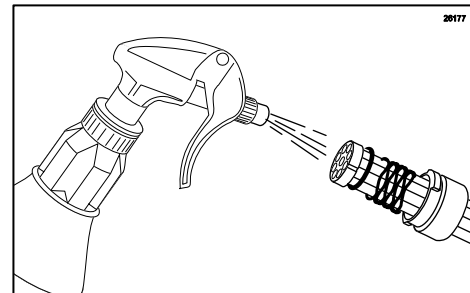

Figure 74
27. Remove the end of the 9-Tube Assembly from the container. Using a spray bottle of approved sanitizer solution, spray end of the assembly and allow it to sanitize for at least 1 minute. (See Figure 74.)